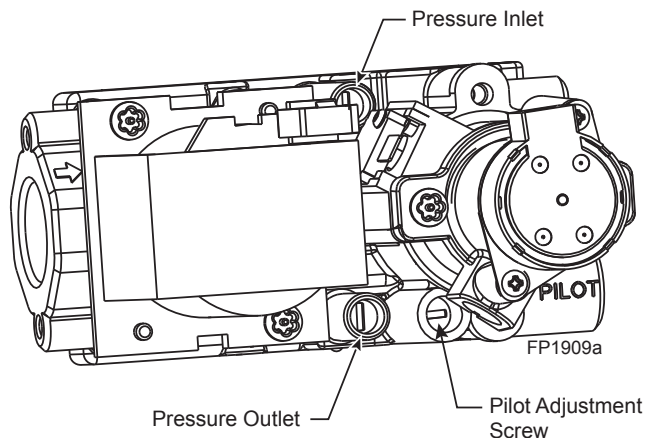

**Figure 56 -
4. To check gas pressures at valve, turn captured screw counter clockwise 2 or 3 turns and then place tubing to pressure gauge over test point. Turn unit to high. *Figure 56.* After taking pressure reading, be sure and turn captured screw clockwise firmly to reseal. Do not over torque. Check test points for gas leaks.